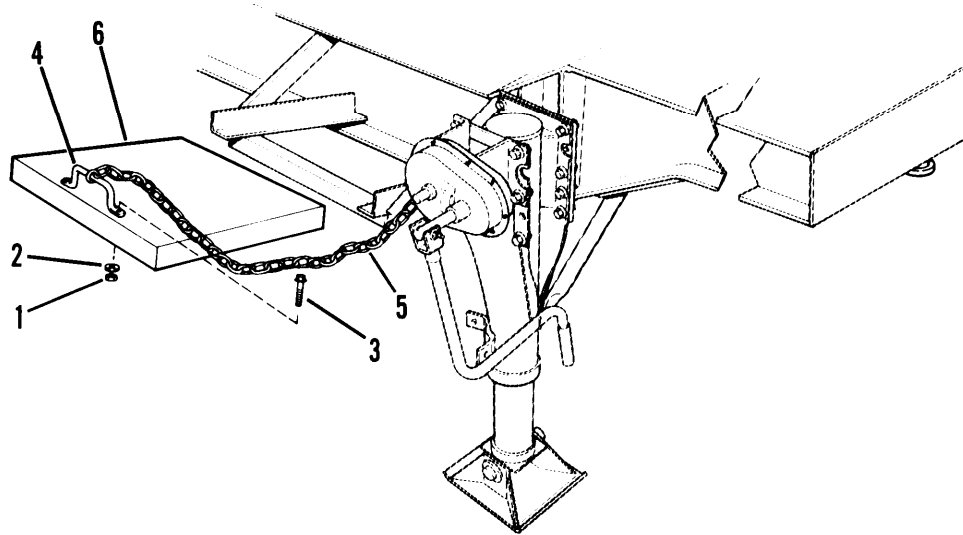

Figure 4-57. Float Pad
- (1) Remove two nuts (1, fig. 4-57), washers (2) and bolts (3) from float pad handle (4).
- (2) Remove handle (4) .
- (1) Position float pad chain (5, fig. 4-57) on frame according to markings.
- (1) Position handle (4, fig. 4-57) on float pad (6).
- (2) Secure handle (4) with two bolts (3), washers (2) and nuts (1).
- (3) Stow float pad (6).